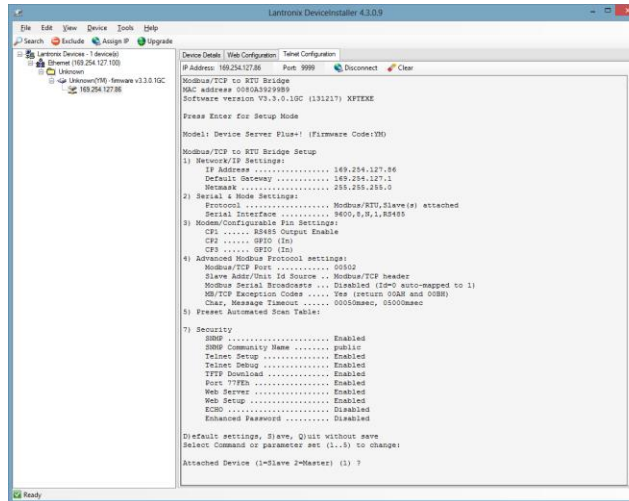

Fig 6.5.1
6.5 As shown in fig 6.5.1, enter '1' to select "Slave" device.